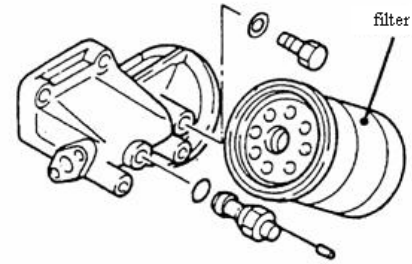

Fig.1.8
1.6.3 Replacement of oil filter (Fig.1.8)
The ancillary radiator as Fig.1.8, when the antifreeze under the "LOW" scale, it means need to add coolant, add to the 2/3 scale of the up and down scale.